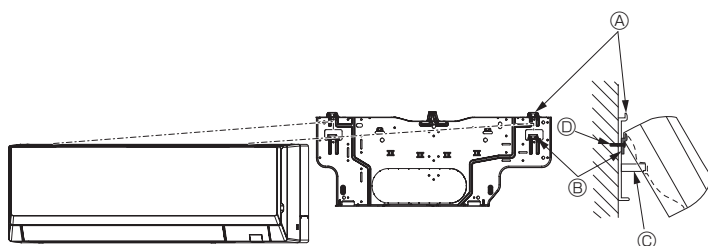

Fig. 3-26
- When the indoor unit cannot be hung and lifted up with the regular hook (the dimension of 2.1. ③ (the clearance between the ceiling and the unit) is 75 mm, 2-61/64 inch or less), hang the unit on the lower hook. (Fig. 3-26)
(Fig. 3-26)